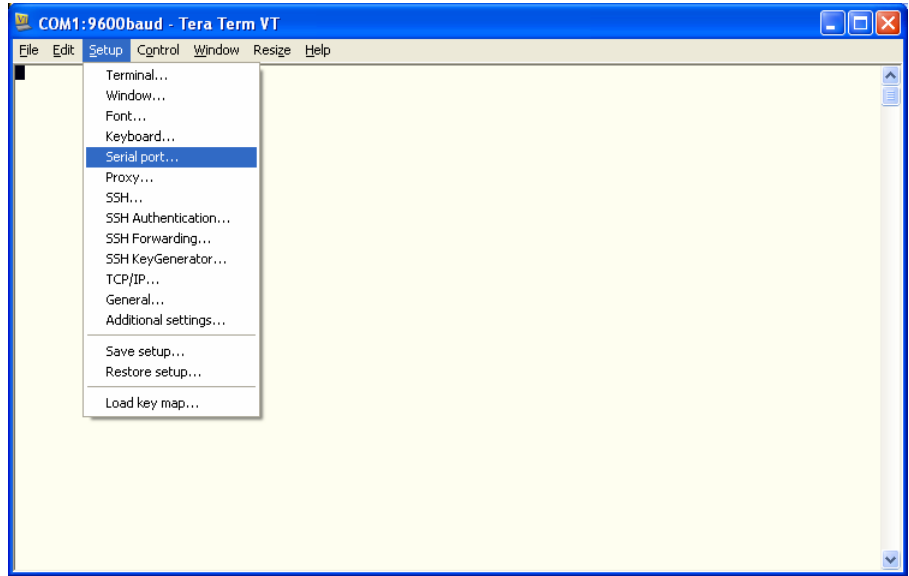

Figure 6-25: Selecting the Serial Port Setup
19. Select **S**etup, then click **S**erial port (Figure 6-25).